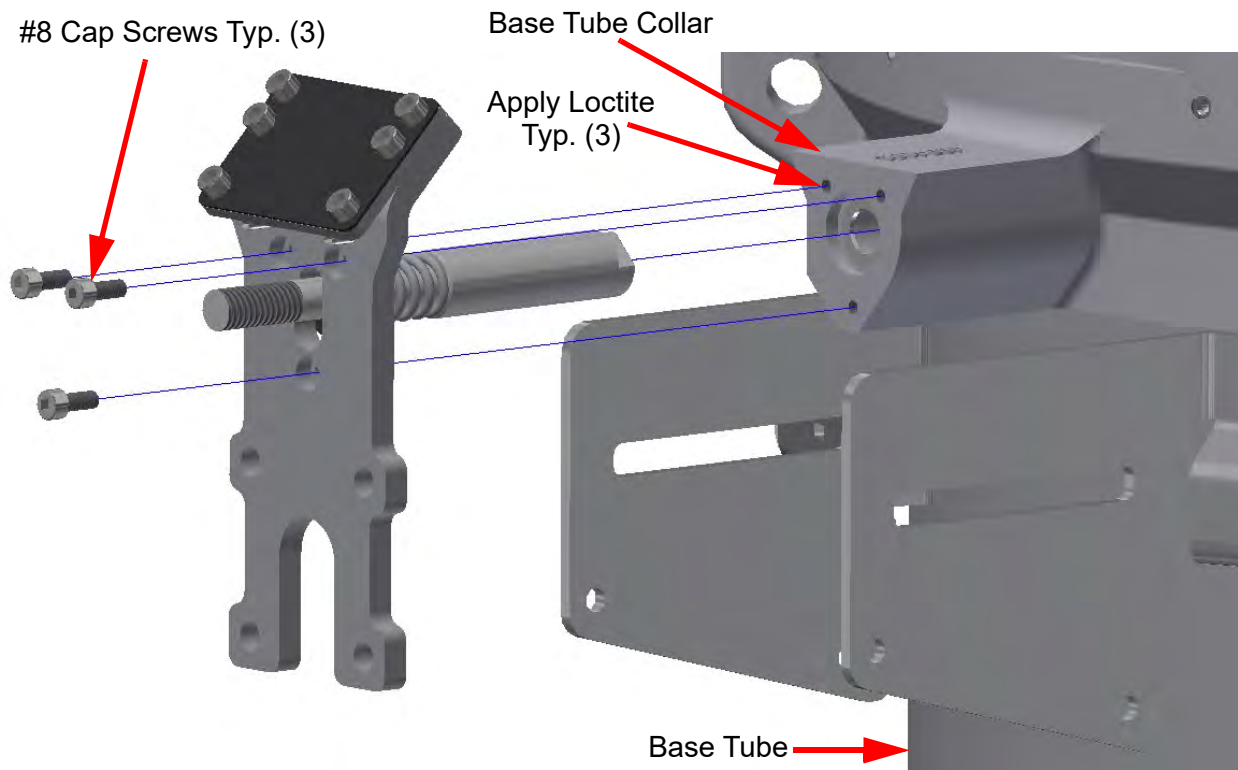

Figure 8-12 Assemble Components
3. Apply blue Loctite 243 or equal to threaded holes of the base tube collar (Figure 8-12).
4. Mount the base tube guide plate assembly, pin, spring, spacer plate and thrust bearing to the base tube collar using (3) #8 socket head cap screws.